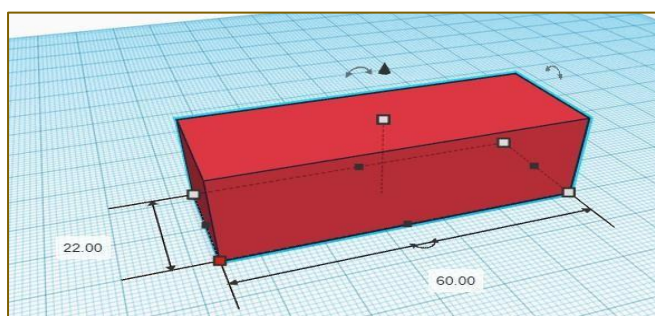

Fig. 4.13: Create Box of Mentioned Depth and Width
3. Click and drag the box in to a rectangle, roughly 60 mm long by 22 mm wide. (Fig. 4.13 and 4.14). Grab the middle handle and reduce the height/thickness to around 2 mm.